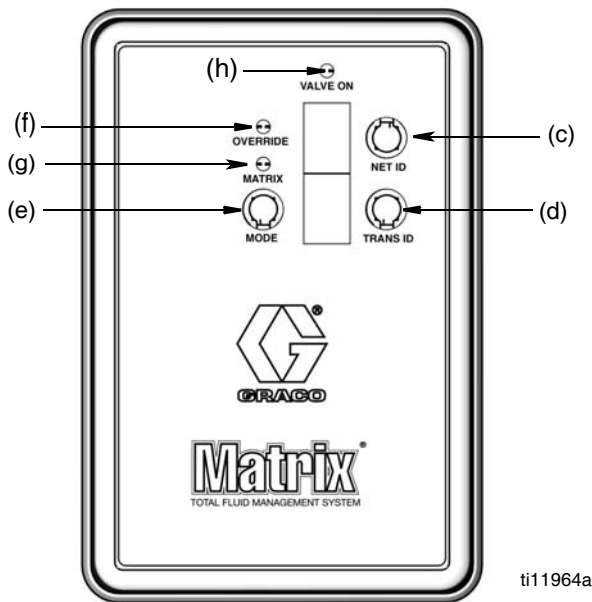

FIG. 2
1. Press and hold MODE button (e) (FIG. 2) to select Matrix or Override mode.
- In the MATRIX (preferred) (g) (FIG. 2) mode, the pump will not operate unless it receives an authorization code from Matrix software. Unauthorized dispenses are not allowed in this mode.
- The OVERRIDE mode (f) (FIG. 2), turns on air to the pump so the pump can be used without authorization through Matrix. VALVE ON LED (h) will indicate the solenoid valve is activated/deactivated.
1. Press and hold NET ID button (c) (FIG. 2) to increment NET ID to match desired Network ID.
2. Press and hold TRANS ID button (d) (FIG. 2) to increment TRANS ID to match desired Transceiver ID.